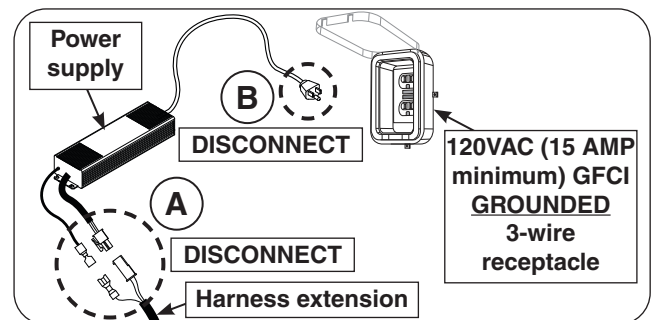

Fig. 32-4 Perform system reset
2. Disconnect the harness extension from the power supply (see Fig. 32-4, A).
3. Disconnect the power supply from the power source. (see Fig. 32-4, B).